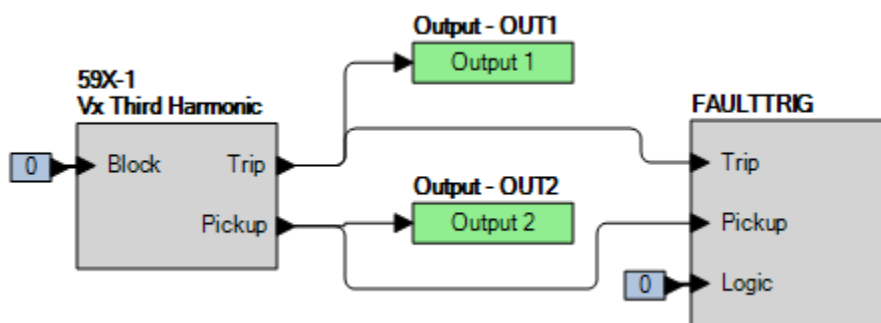

Figure 60-5. BESTlogic_{Plus} Settings (Vx Third Harmonic Mode)
Step 2: Use BESTCOMSP_{Plus} to configure the BESTlogic_{Plus} programmable logic shown in Figure 60-5.
Step 4: Prepare to monitor the 59X-1 function operation. Operation can be verified by monitoring OUT2 (see Figure 60-5).